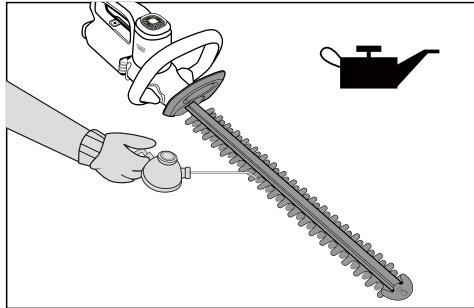

Fig. 7
- Lubricate the blade using a light weight machine oil. Before lubricating, ensure the batteries are removed. (Fig. 7)